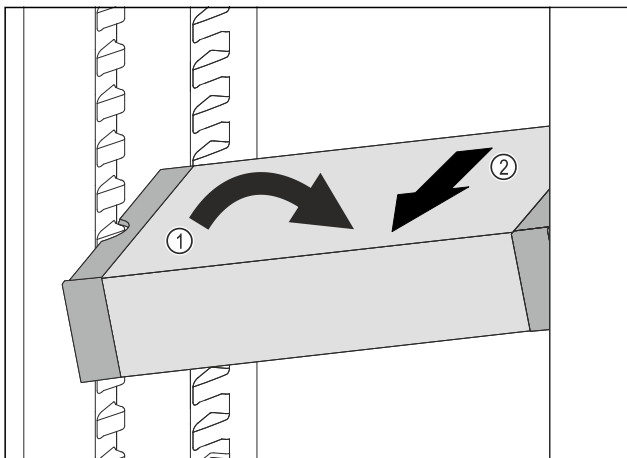

Fig. 104
- Set VarioSafe in refrigerator compartment at an angle. Fig. 104 (1)
- Take VarioSafe out to the front. Fig. 104 (2)